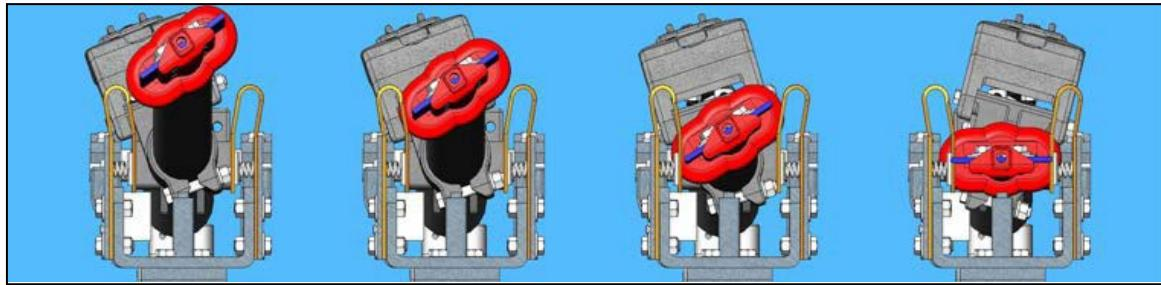

Figure 6: Blade Tip Travel
2.1.3. The blade tip must come down into the jaw in its center, without dragging on either side as shown in **Figure 6**. Use the jack screws that support the jaw insulator to tilt the insulator sideways, if necessary to ensure this condition.